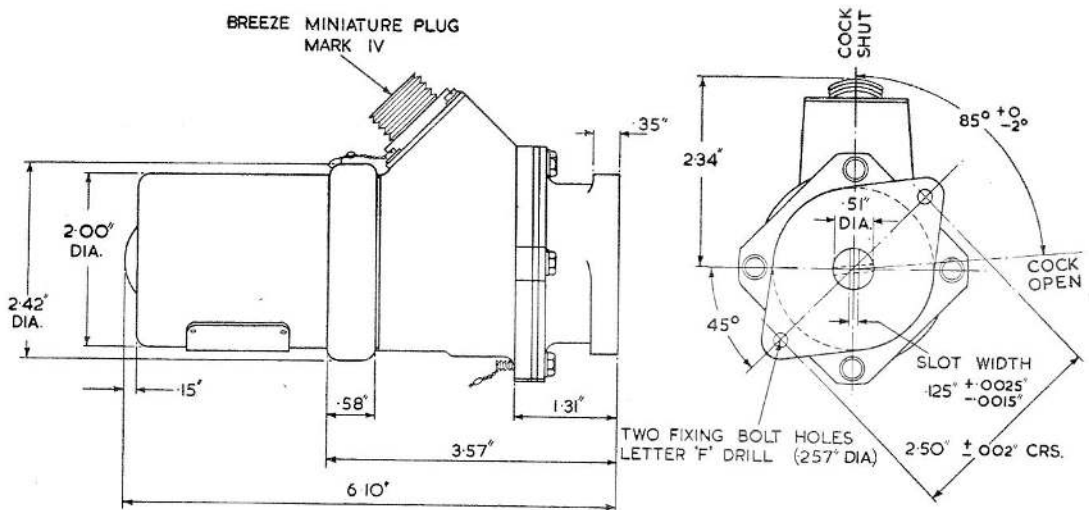

Fig. 1. Installation drawing
3. The limit switches are adjusted during manufacture to provide 85 deg. angular travel of the coupling shaft. All necessary information concerning the movement of the coupling shaft relative to the mounting flange is given in the installation drawing (fig. 1). A functional test should be performed by connecting the actuator to a 28-volt d.c. supply and applying loads of 0, 30 and 60 lb./in. The maximum current consumption and the time the coupling takes to complete its 85 deg. angular travel should not exceed the values given in the following table:—